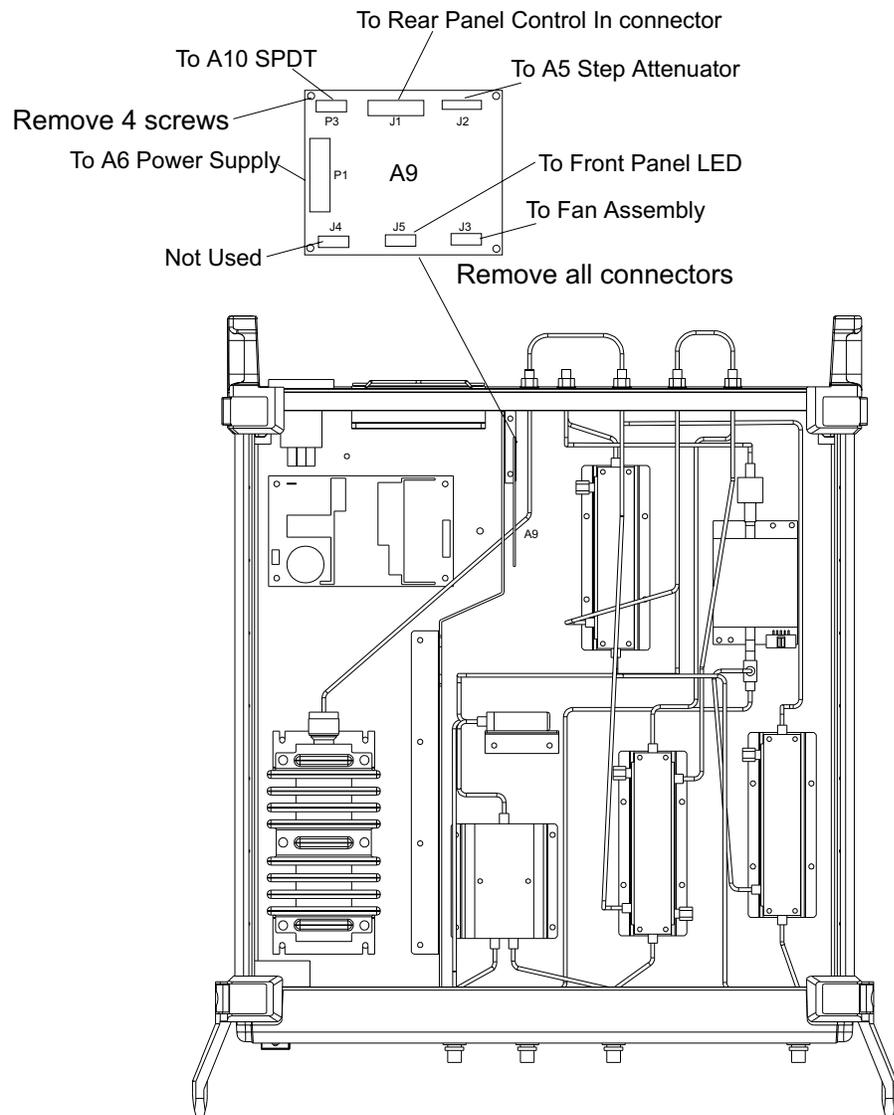

Figure 5-10. A9 System Control PCB Removal
- Step 2.** Disconnect six wiring connectors from the A9 PCB (Figure 5-10).